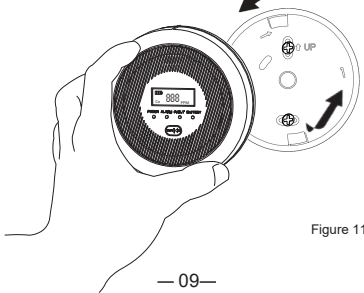

Figure 11
- 1) Turn the detector anticlockwise to remove it off the mounting bracket(refer to Figure 11),Take out the drained batteries.